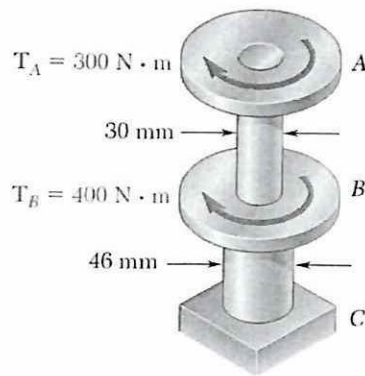

Figure Q4.1
- (b) The torques shown in **Figure Q4.1** are exerted on pulleys A and B. Knowing that both shaft are solid, determine the maximum shearing stress in shaft AB and shaft BC .